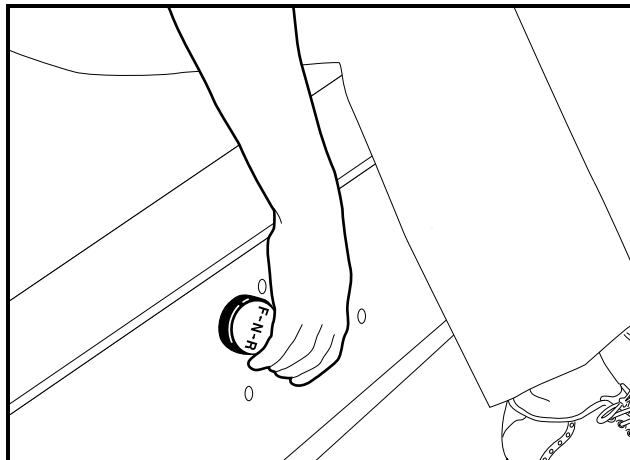

Figure 5 Forward/Reverse Handle
The Forward/Reverse (F&R) handle is located on the seat support panel, below and to the right of the driver's right knee (**Figure 5, Page 8**). The F&R handle has three distinct positions—FORWARD, REVERSE, and NEUTRAL. Rotate the handle to the FORWARD (F) position, towards the driver, to operate the vehicle in the forward direction. Rotate the handle to the REVERSE (R) position, towards the passenger, to operate the vehicle in the reverse direction. When the F&R handle is in the straight-up, NEUTRAL (N) position, the vehicle will not operate. DS vehicles operate at reduced speed in reverse. When the vehicle is in reverse, the reverse warning buzzer will sound.